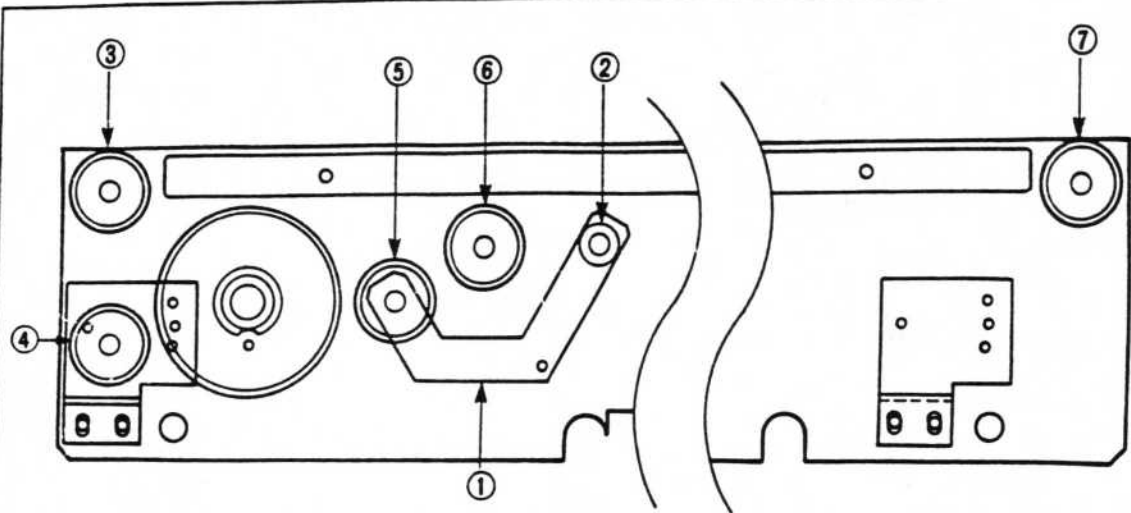
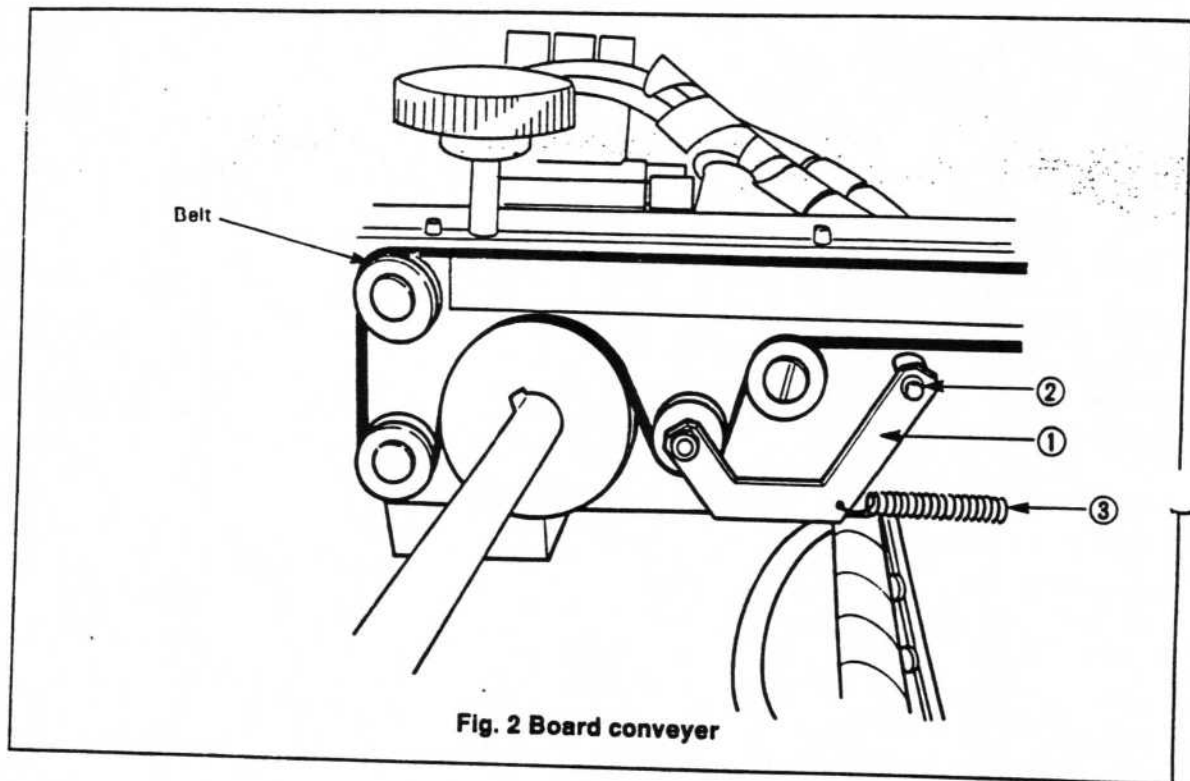

Fig. 1 Board conveyer
Fig. 2 Board conveyer
- (1) Remove the screws (x 4) shown in the figure below and remove the box cover (see Fig. 1).
- (2) Pull off the insulating cover ① from the switch in the direction indicated (see Fig. 2).
- (3) Turn the ring ② holding the switch counterclockwise and remove.
- (4) Unsolder the leads with a soldering iron.
- For belt replacement, remove the arm ① (see Figs. 1 and 2). The arm can be detached by removing the nut (8 mm) on the rear side of the arm shaft ②. Having removed the arm, the arm on the adjustable board conveyer ① (Figs. 3 and 4) side can be replaced. (When removing the arm, remove also the spring (③ in Fig. 2). Next remove the sensor bracket ③ on the fixed board conveyer ② side (see Figs. 3 and 4). By removing the arm in the same way as for side ①, the belt can be replaced.
- As in the above (belt replacement), first remove the arm, then remove the retaining nut of the pulley ⑤ (of pulleys ③ - ⑦ in Fig. 1) and replace the pulley. Other pulleys can be replaced by removing the nuts on the rear side of each. Pulley replacement is usually accompanied by replacement of the pulley shaft. Also replace the board conveyers (① and ② in Figs. 3 and 4). For the board conveyer ②, first remove the sensor bracket ③.